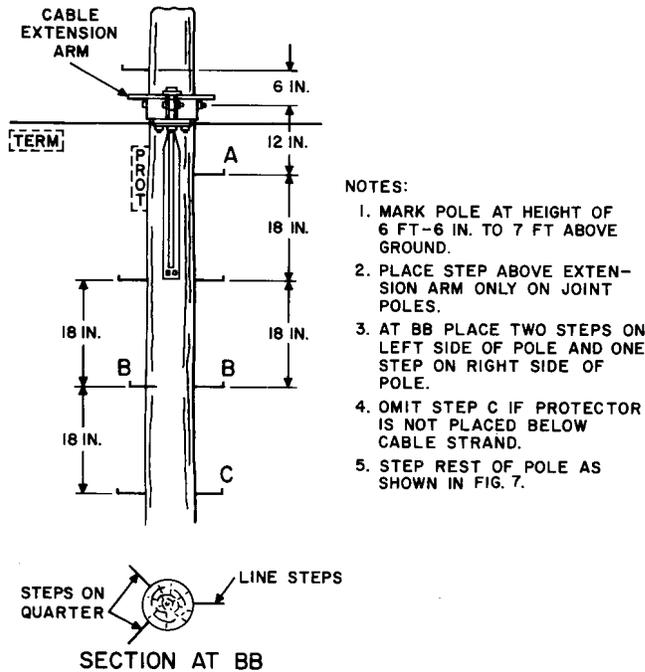
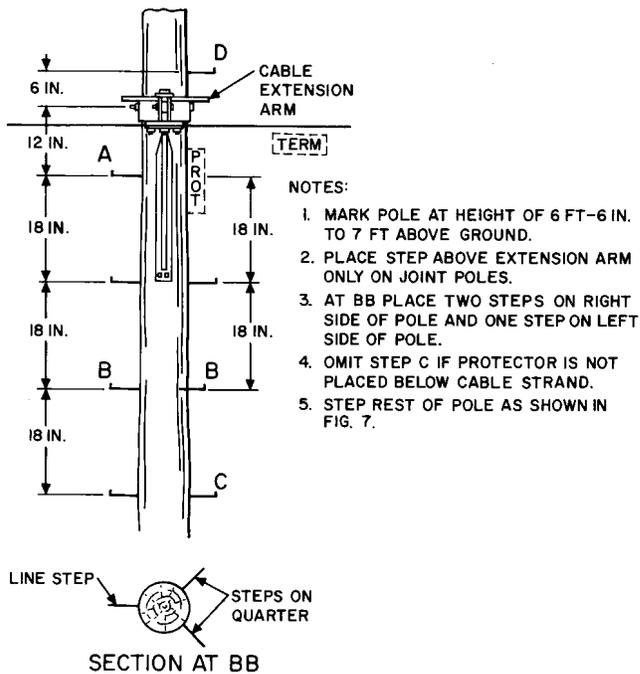

Fig. 8—Extension Arm With Terminal on Left
Fig. 9—Extension Arm With Terminal on Right
5.02 For strand mounted terminals to left of pole, place steps as shown in Fig. 8. For strand mounted terminals to right of pole, reverse position of steps "A" and "D" (Fig. 9).